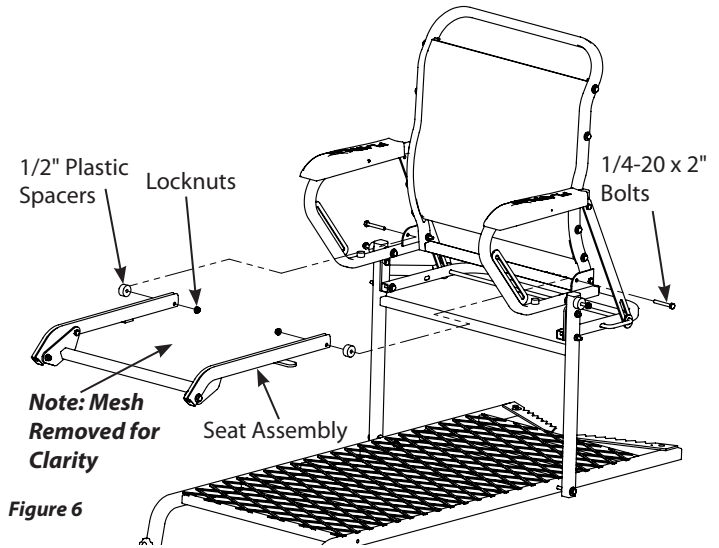

Figure 6
6. Attach seat assembly (14336) to the inside of the armrest assemblies using (2) provided 1/4-20 x 2" bolts, locknuts, and 1/2" plastic spacers. **SEE FIGURE 6.**